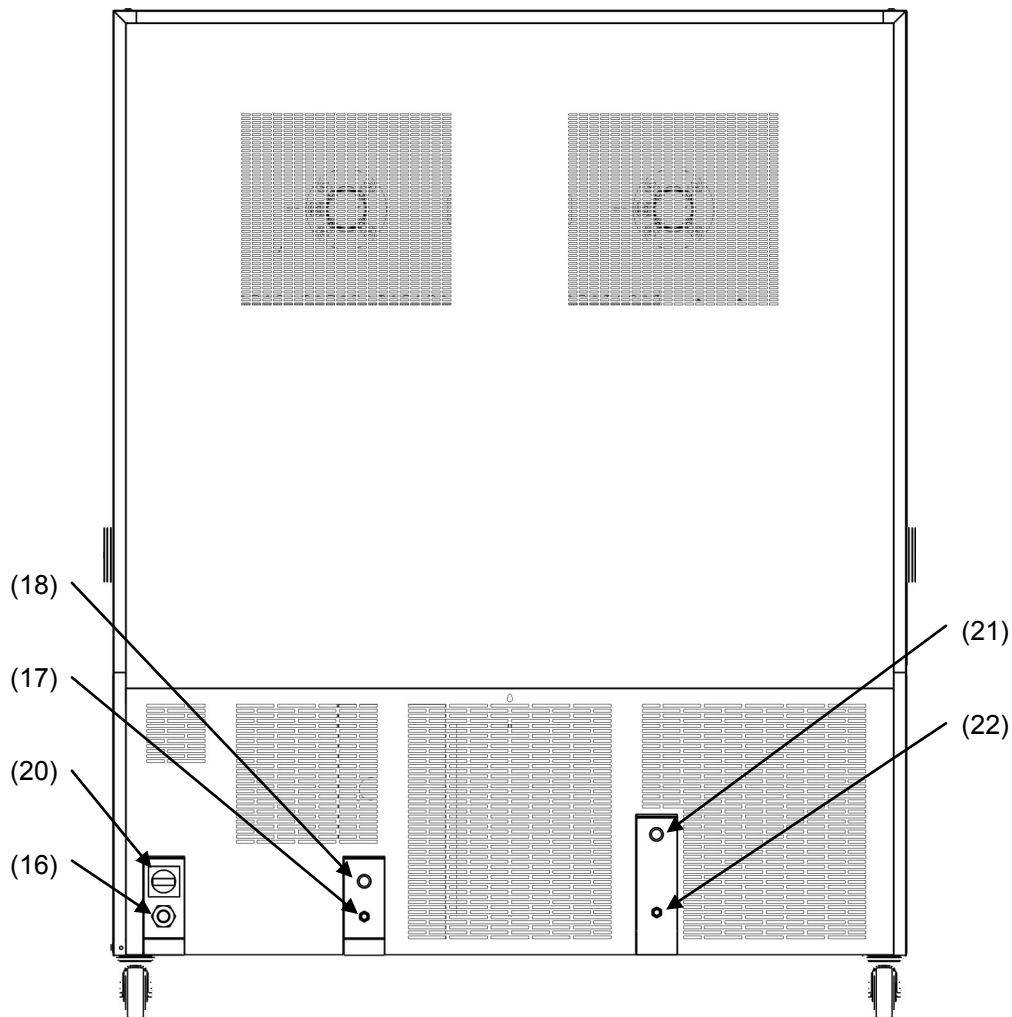

Figure 8: Rear view of the chamber with water connections and optional water cooling
Fasten the wastewater hose to the wastewater connection "OUT" (17) (Figure 8) on the rear of the chamber (olive  $\varnothing$  14 mm). Observe the following points:
An enclosure inside the chamber contains the connection kit for water supply and wastewater. Install the water supply connection using either the enclosed water hose or another pressure-resistant one. To accomplish this, remove the cover of the freshwater connection "IN" (18) (Figure 8) on the rear of the chamber. Protect both ends of the hose with two of the four supplied hose clamps. Before turning on the chamber, check the connection for leaks. Water supply is automatically effected via the freshwater connection "IN" (18).
- Fasten the cooling hose to the connection “OUT” (21) (Figure 8) on the rear of the chamber (screw thread  $\frac{3}{4}$ ”).
- Fasten the cooling water hose to the connection “IN” (22) (Figure 8) on the rear of the chamber (screw thread  $\frac{3}{4}$ ”).
- Install the water supply connection using either the enclosed water hose or another pressure-resistant one. To accomplish this, remove the cover of the freshwater connection “IN” (22) (Figure 8) on the rear of the chamber.